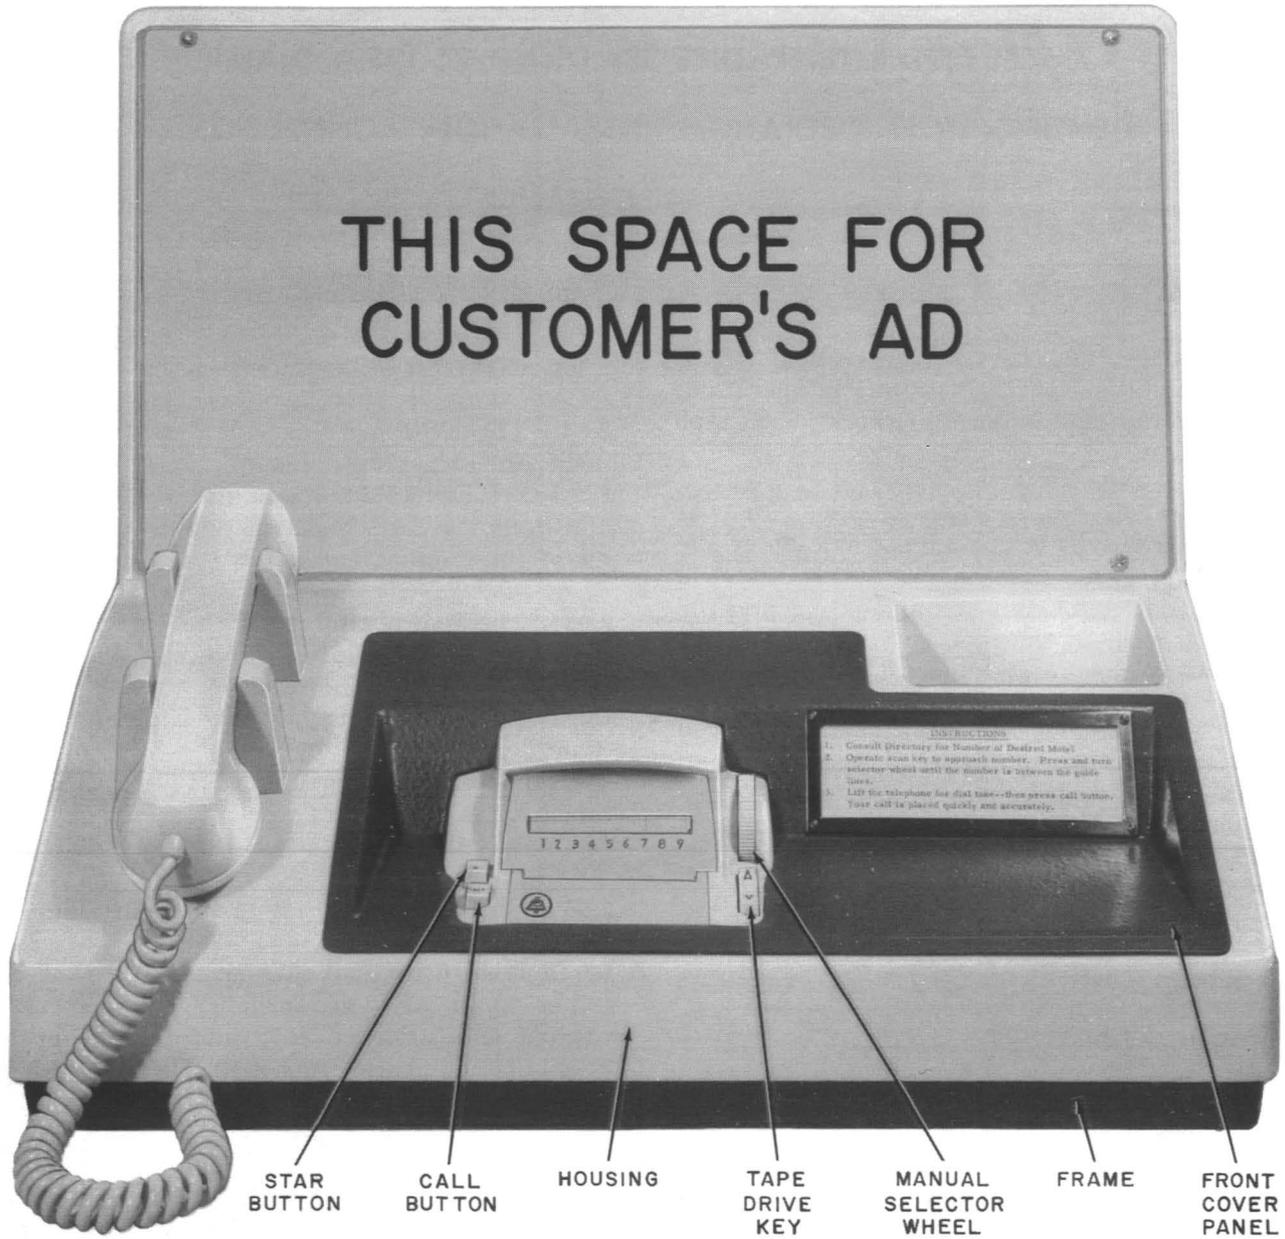

Fig. 1 — F-56503-A Telephone Set
2.01 The F-56503 type telephone set (Fig. 1) is a two-piece molded fiberglass unit approximately 17 inches high, 20 inches wide, and 13 inches deep. It is equipped with a lighted billboard area for displaying customers advertisement.
2.03 The dial version (Fig. 1 and 2) consists of the two-piece unit, a G3A handset, a B-696117 jack extension cord, a front cover designed to accept the repertory dialer unit, and the following components which must be ordered separately: